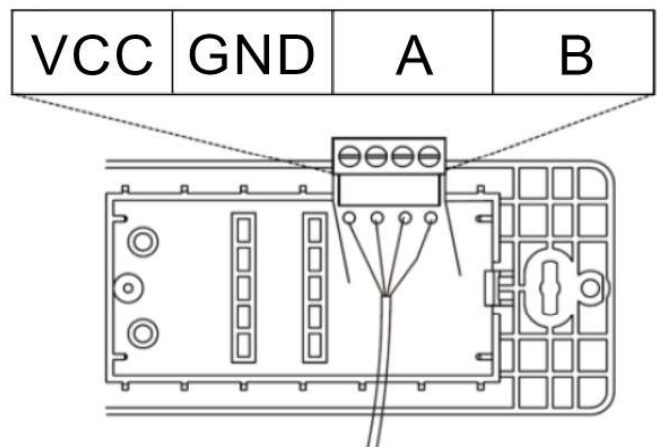

FIGURE 3: WIRING CONTROL
9. Note which wire color has been chosen for each terminal. See Figure 3.